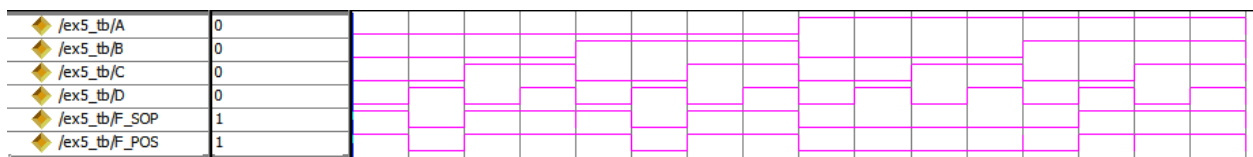

Figure 2: Simulated Waveform of Circuit
Figure 2 shows the generated waveform from the simulation.
Figure 2 represents the digital logic of the inputs and outputs of the circuit. The circuit worked successfully with the expected waveform and outputs. Both  $F_{SOP}$  and  $F_{POS}$  generate mostly the same waveform. This is expected as both expressions are equal and are derived from the same original Boolean expression in (1). The only difference in the waveform is in two locations. In the  $F_{POS}$  waveform there are two visible glitches where the output is different from what the output should be. The glitch shows a "1" when there should have been a "0" and vice versa later in the waveform. This is a "hazard" caused by propagation delay from the gates.